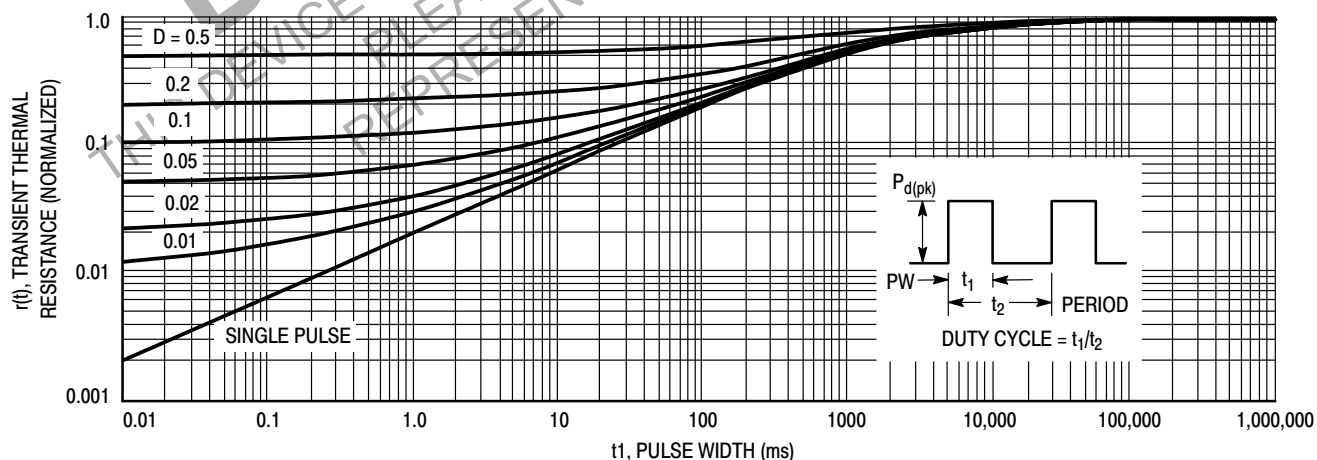

Figure 12. Transient Thermal Response for MDC3105LT1
Figure 12 of the MDC3105 data sheet plots its transient thermal resistance, $r(t)$ as a function of pulse width in ms for various pulse train duty cycles as well as for a single pulse and illustrates this effect. For short pulse widths near the left side of the chart, $r(t)$, the factor, by which the continuous duty thermal resistance is multiplied to determine how much the peak power rating can be increased above the average power rating, approaches the duty cycle of the pulse train, which is the expected value. However, as the pulse width is increased, that factor eventually approaches 1.0 for all duty cycles indicating that the pulse width is sufficiently long to appear as a continuous duty condition to this device. For the MDC3105LT1, this pulse width is about 100 seconds. At this and larger pulse widths, the peak power dissipation capability is the same as the continuous duty power capability.
To use Figure 12 to determine the peak power rating for a specific application, enter the chart with the worst case pulse condition, that is the max pulse width and max duty cycle and determine the worst case $r(t)$ for your application. Then calculate the peak power dissipation allowed by using the equation,
Thus for a 20% duty cycle and a PW = 40 ms, Figure 12 yields $r(t) = 0.3$ and when entered in the above equation, the max allowable $P_d(pk) = 390$ mW for a max $T_A = 85^{\circ}C$.
2. For pulsed operation, use the Transient Thermal Response of Figure 12 and the instructions with it to determine the maximum limit on transistor power dissipation for the desired duty cycle and temperature range.